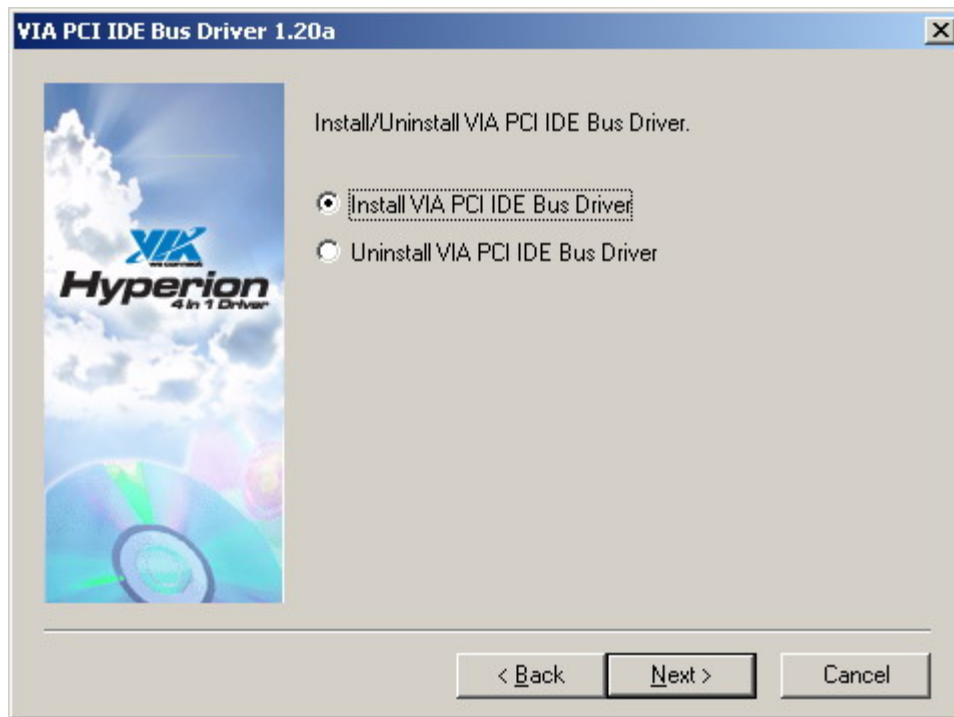

Figure 6-7: VIA PCI IDE Bus Driver Selection
Step 8: The setup then prompts the user (see **Figure 6-7**) if the VIA PCI IDE Bus Driver must be installed on the system. Select install or uninstall. Click "**NEXT**" to continue the installation.